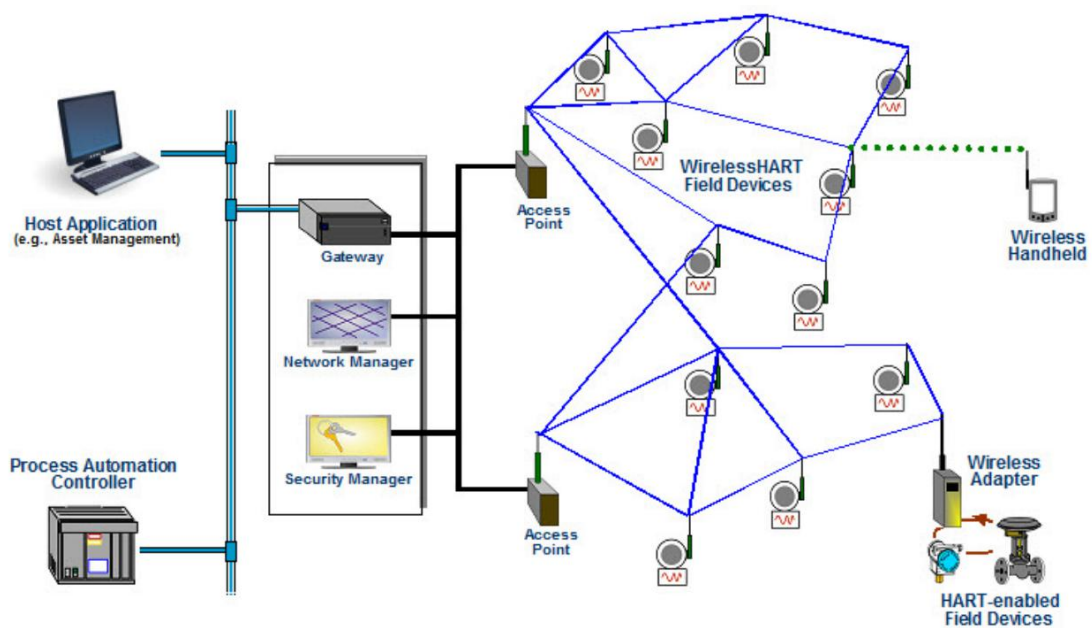

Figure 1.1 *WirelessHART* Network Structure
*WirelessHART* adopts mesh topology network technology, safe and stable with 2.4 GHz ISM frequency band, and all the information is packaged in one packet, to realize data transmit through DSSS (Direct Sequence Spread Spectrum) and FHSS (Frequency Hopping Spread Spectrum) technology based on IEEE802.15.4. A *WirelessHART* network consists of three key elements: *WirelessHART* field devices, *WirelessHART* gateway and *WirelessHART* network manager, also supports *WirelessHART* adapter, to let existing HART devices access *WirelessHART* network, and supports *WirelessHART* handheld devices, to connect adjacent *WirelessHART* devices. Figure 1.1 shows the complete *WirelessHART* network structure.